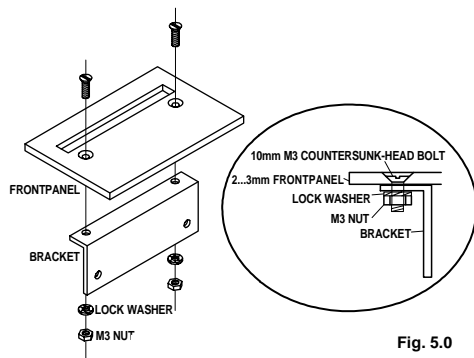

Fig. 5.0
(B) Make the holes in the housing or panel and mount the bracket (fig. 5.0) :